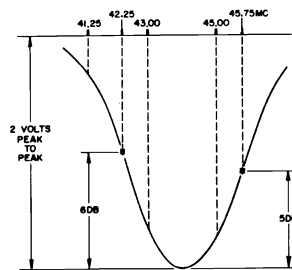

Figure 15 - Typical IF response, 1st IF Amp grid to 2nd Det.
| 4. | IF sweep generator at 44.25 MC to TP (D). Couple CW marker generator to sweep generator cable. Keep marker amplitude at minimum to avoid distorting response. | T201, T202, T203: Slight retouching may be necessary to obtain response curve with correctly placed markers as shown in Figure 15. Use T203 (top slug) to flatten peak of curve, T201 to adjust low frequency slope and T202 to adjust high frequency slope. |